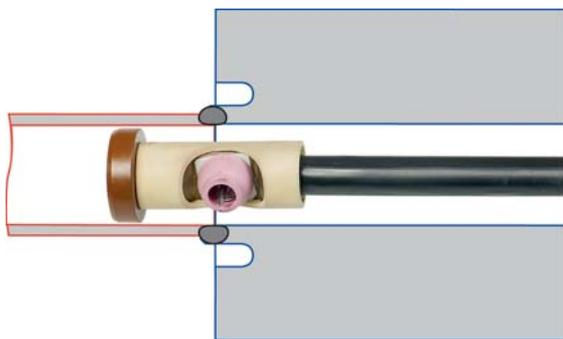

Fig.3.22 - Internal welding
- Internal welding (Fig.3.22).